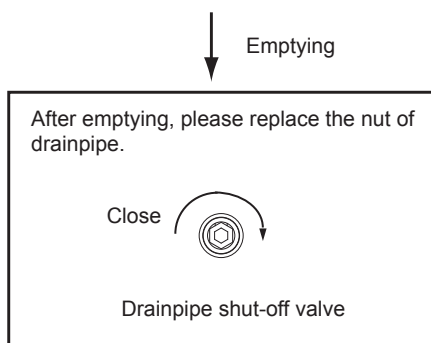

Fig.4-2
- Emptying: If the unit needs cleaning, moving etc, the tank should be emptied. Method: See Fig.4-2: